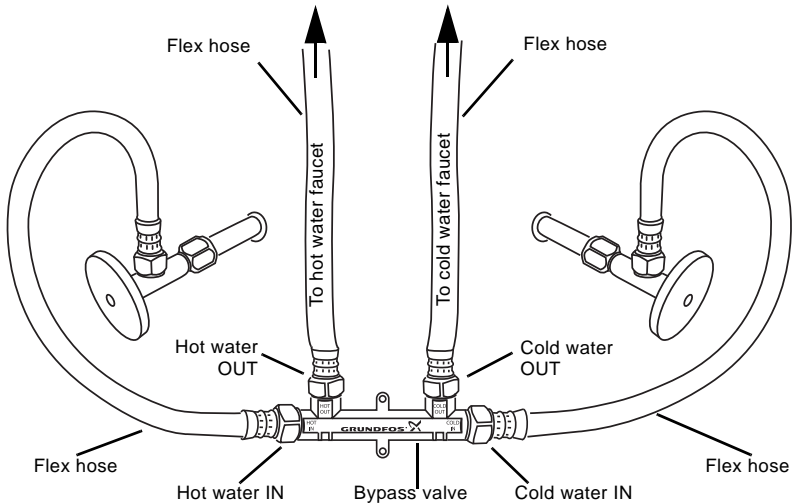

Fig. 5 Connect the bypass valve, flex hoses, and fittings as shown
1. Connect the flex hoses to the ports on the bypass valve marked "HOT OUT" and "COLD OUT". See fig. 5.
2. Connect the flex hoses to the ports on the bypass valve marked "HOT IN" and "COLD IN". See fig. 5.
3. Connect the hose fitting from the "HOT OUT" port on the bypass valve to the left side of the faucet. See fig. 5. If connecting to a 3/8" fitting, use adapters. Adapters are included with pumps with a production date code of 1841 [PC (year) (week)] or later on the pump's nameplate.
4. Connect the hose fitting from the "COLD OUT" port on the bypass valve to the right side of the faucet. See fig. 5. If connecting to a 3/8" fitting, use adapters. Adapters are included with pumps with a production date code of 1841 [PC (year) (week)] or later on the pump's nameplate.
5. Connect the hose fitting from the "HOT IN" port on the bypass valve to the left angle stop valve. See fig. 5.
6. Connect the hose fitting from the "COLD IN" port on the bypass valve to the right angle stop valve. See fig. 5.